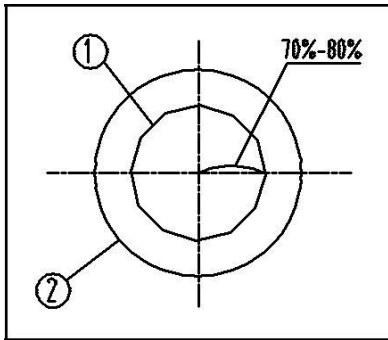

Figure 13
is usually low, the handle ④ should be turned to align with the condenser seat ⑤ when using. The magnification position corresponding to the multiple of the objective, even if the aperture of the condenser lens is adjusted to the value of the aperture of the objective 70%-80%. If necessary, remove the eyepiece, observe from the eyepiece cylinder, and adjust the handle ④ until it is as shown in Figure 13 to adjust the scale. (as shown in Figures 13 and 14, ① refers to aperture light bar image, ② refers to outer edge of objective.